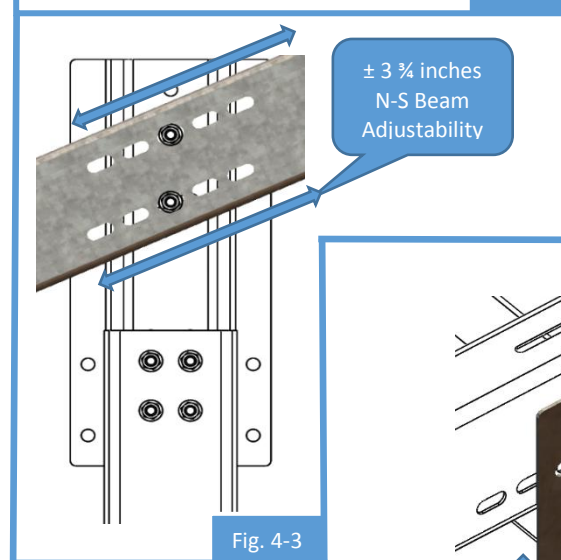

Fig. 4-3
- North – South Beam: ± 3.75 inches (95 mm) (Fig. 4-3)